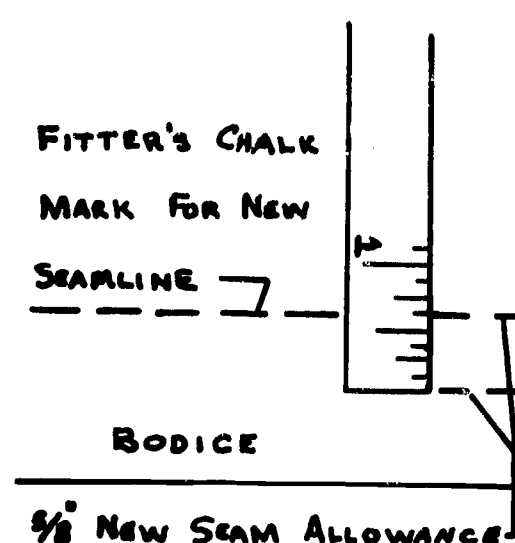

Figure 28.
7. Mark the new seam allowance on the bodice by making a chalk mark the same distance below the fitting chalk mark as the distance which was measured on the skirt in Step 5 (see Figure 28).